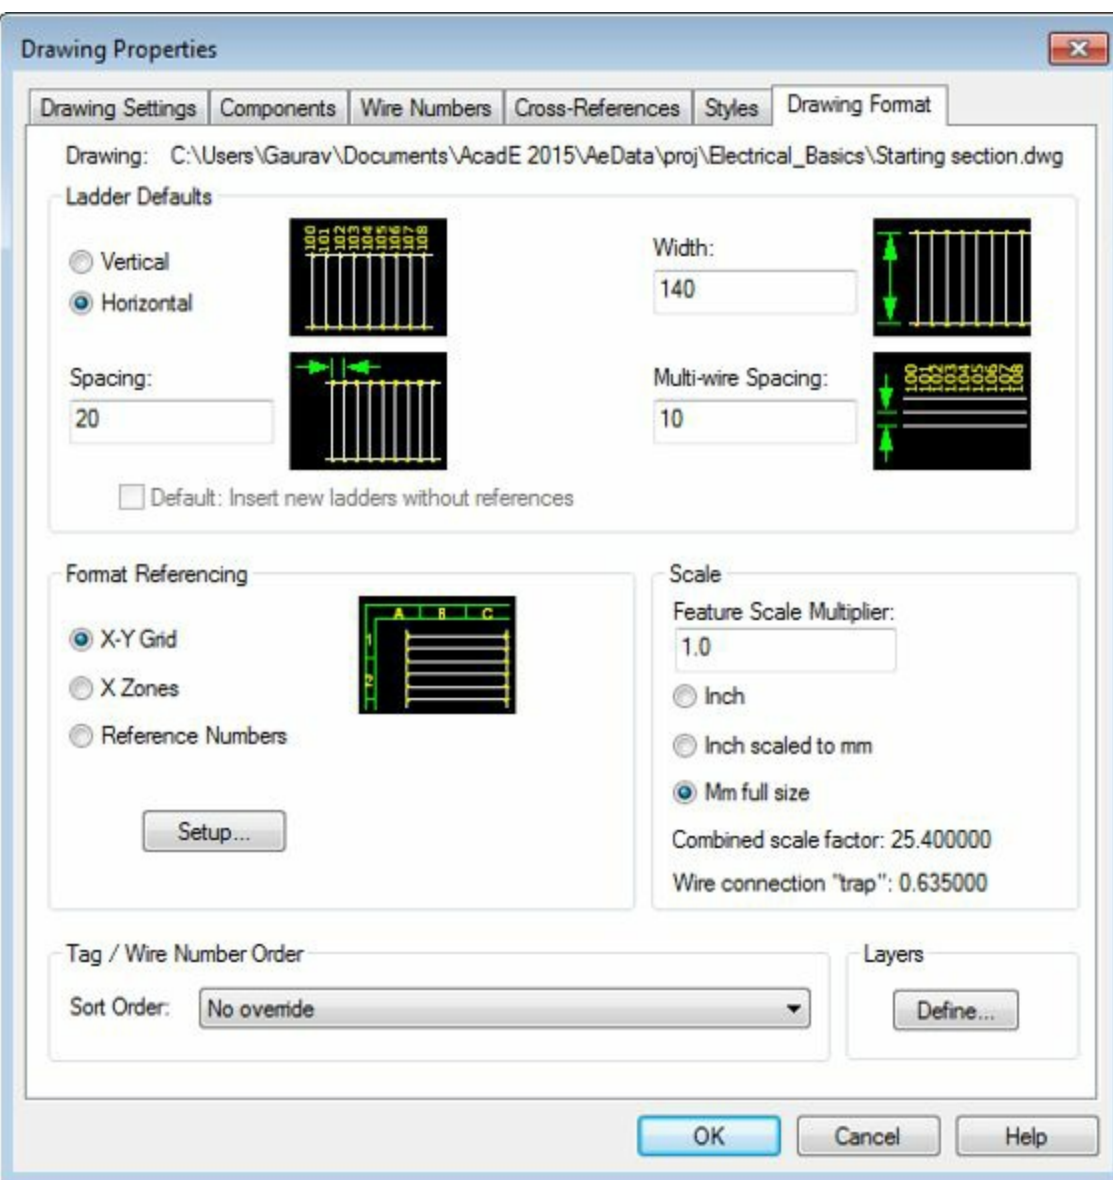

Figure-20. Drawing Properties dialog box with Drawing Format tab
- Click on the Drawing Format tab in the dialog box. The options in the dialog box will be displayed as shown in Figure-20.